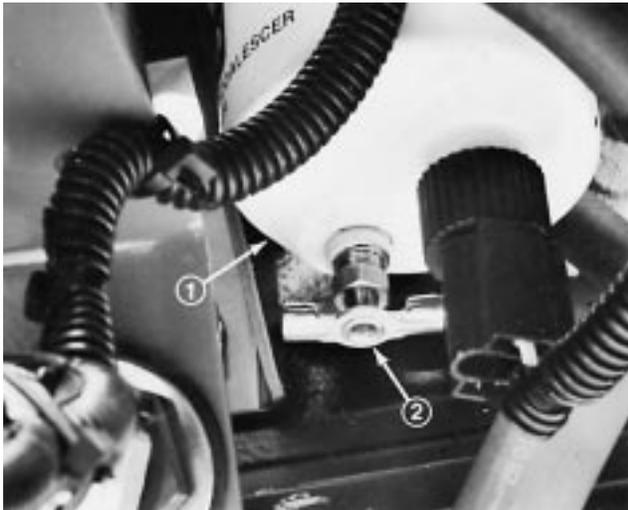

Figure 38
- Locate fuel filter/water separator on lower left side of engine and drain daily (Fig. 38).